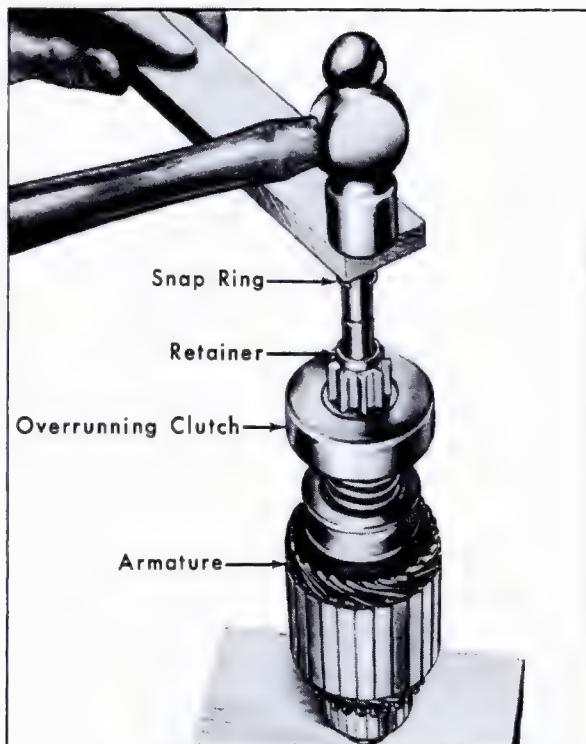

Fig. 6-18 Installing Snap Ring on Shaft
- d. Stand armature on end of a wood surface with commutator down. Position snap ring on upper end of shaft and hole in place with either a piece of wood or a 7/16" socket. Tap socket or block with hammer to force snap ring on end of shaft, Fig. 6-18. Slide snap ring down to the second groove.